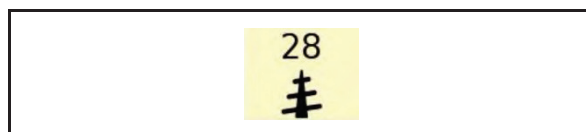

Fig. 164
- The last set speed (Fig. 164) appears in the "Mixing auger(s)" symbol in the terminal.